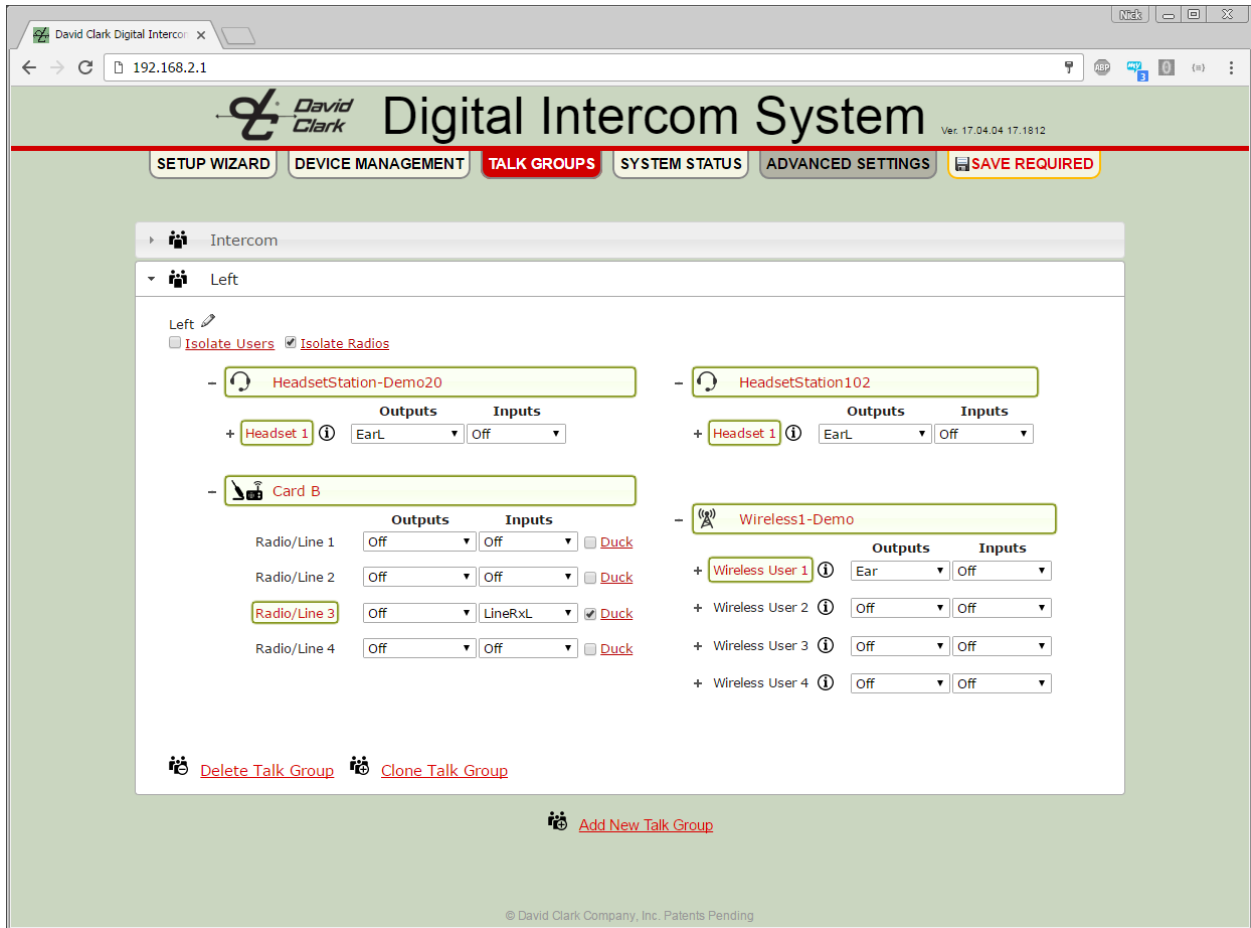

Figure 8.19 Talk Group Example 5 – Left
20. See **Figures 8.19, 8.20, 8.21, and 8.22**.